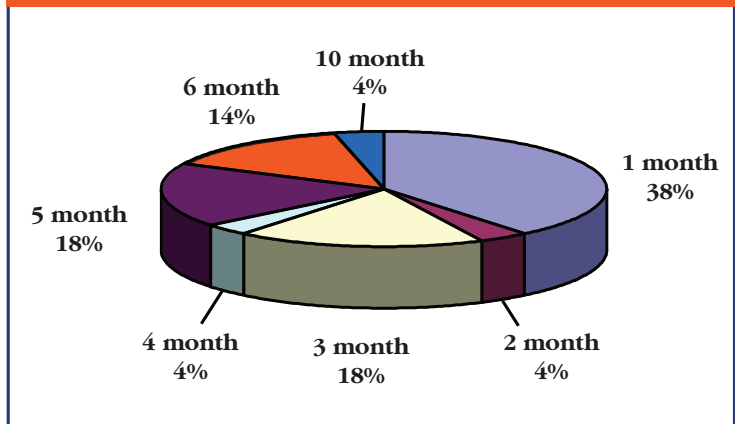

Figure 1 THE DENTAL ADVISOR
- Thirty patients with 56 *Fusio* restorations have had return visits in which their restorations were evaluated (Figure 1).